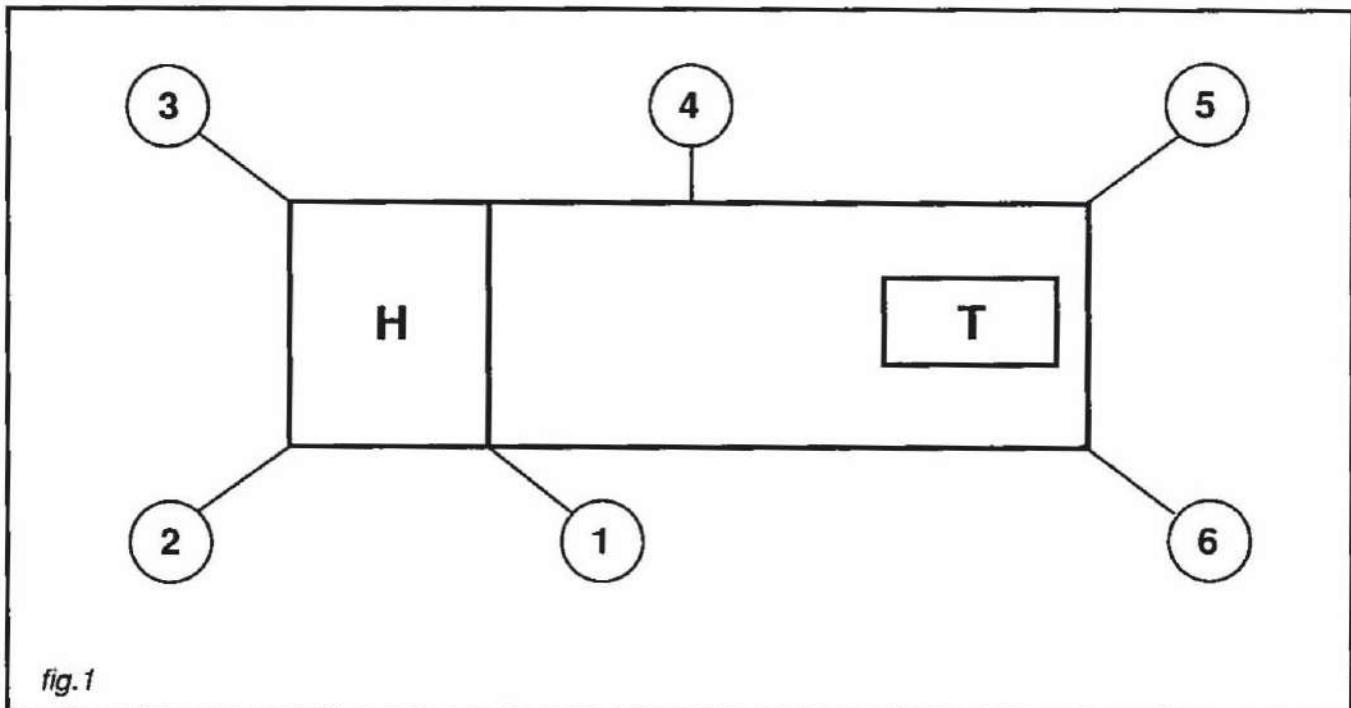

fig. 1
The maximum noise level at the operators position (Fig.1) is within 85 dB(A) and the maximum mean noise level is within 85 dB(A).